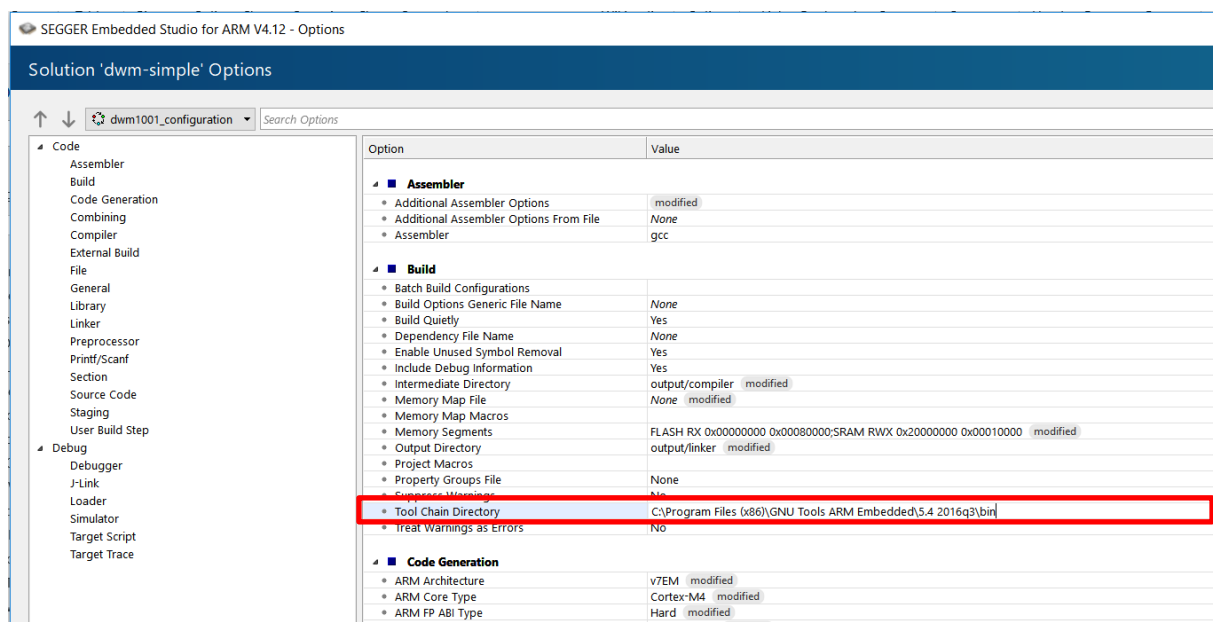

Figure 10: SES - Configuration of GNU ARM Embedded Toolchain install path
3. Set the variable “Tool Chain Directory” to the path of the bin directory of the GNU Arm Embedded Toolchain previously installed. The Figure 10 shows the setting for the default install path.